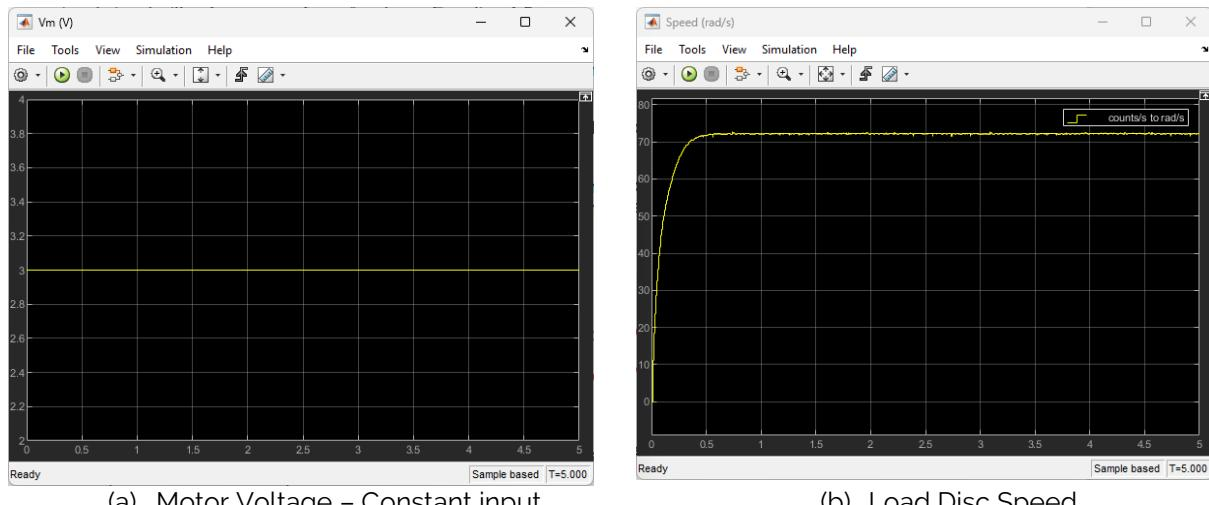

Figure 2: System response when applying a constant 3V input voltage
4. The response should look similar to Figure 2. Save the voltage and speed response you obtained.